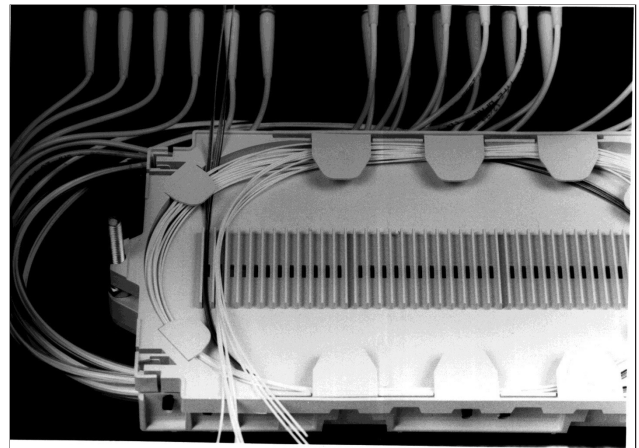

FIGURE 11 - ROUTE FIBERS IN SPLICE TRAY
- 8.08** Route the Pigtail and feeder cable fibers one complete turn around the Splice Tray and into the splice groove farthest from the entry point of the unitubes. (Figure 11)